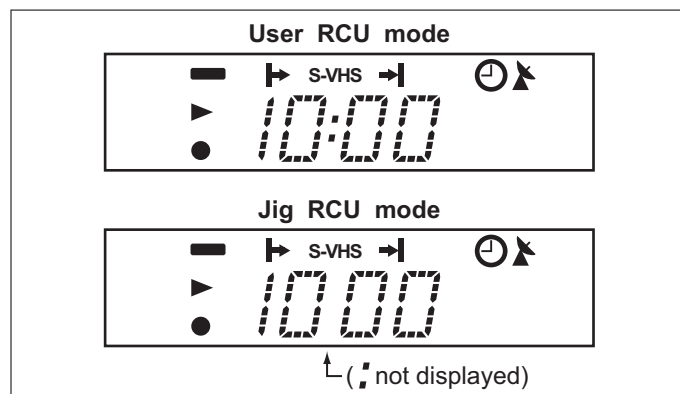

Fig.2-7-1a User/Jig RCU mode
- (1) Turn on the power.
- (2) Press the following remote keys continuously within 2 seconds "SET UP MENU" --> "2" --> "8" --> "OK". When the VCR is set to the Jig RCU mode, the symbols (":") in the time display of the FDP are turned off. (Refer to Fig.2-7-1a)